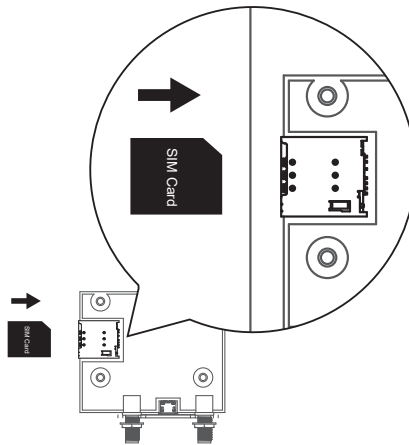

Figure 38. SIM Card Insertion.
2) Insert a 3G/4G Micro SIM Card in the tray, make sure the gold contacts are facing down and the notch is in the upper right corner. See Figure 38.